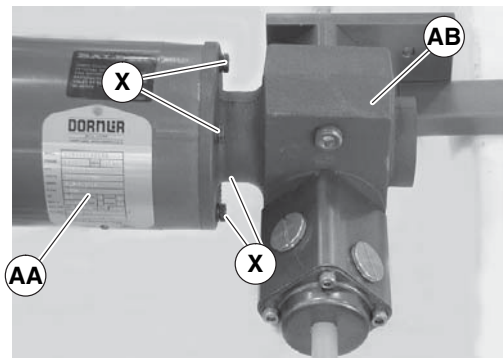
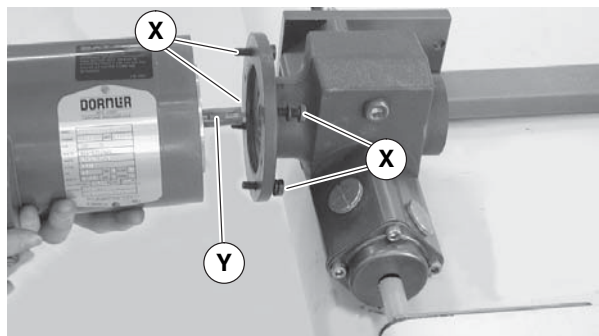

Figure 42
Figure 43
- Remove four screws (Figure 42, item X). Detach motor (AA) from gear reducer (AB). Retain motor output shaft key (Figure 43, item Y).
- With key (Figure 43, item Y) in keyway, slide new motor and gear reducer together. Install screws (X) and tighten.